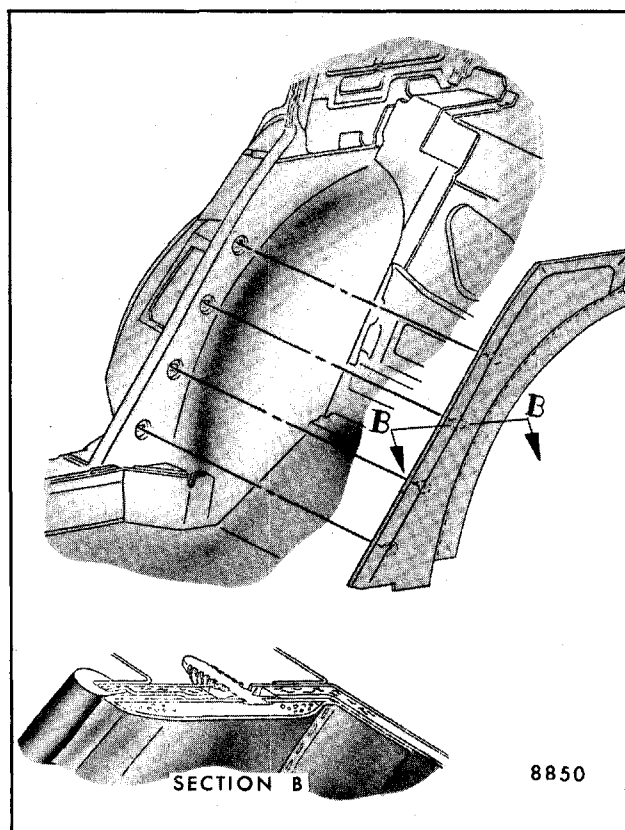

Fig. 6-8-Quarter Lower Trim Attachment - "K-69" Styles
3. On "K-69" styles, using tool J-24596, BT-7323 or equivalent, disengage quarter lower trim to inner panel trim fasteners (Fig. 6-8).